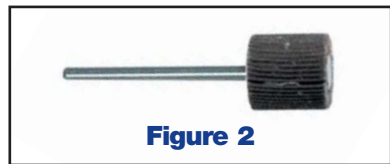

Figure 2
2. Ridges must be removed. Use a 3/8" diameter flap wheel (see Figure 2) chucked in a miniature die grinder to smooth the transition from the chamfer into the bore.